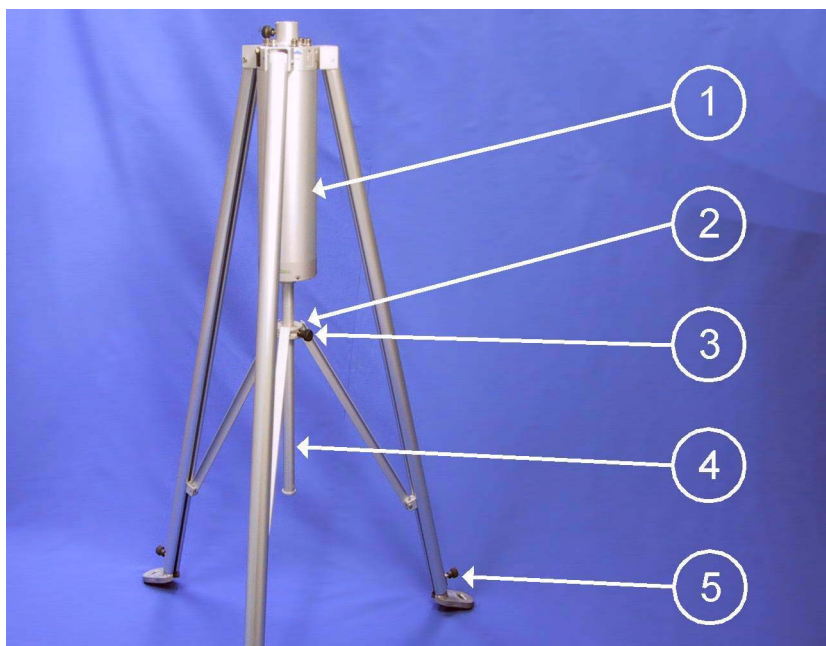

Figure 86 Mechanical Structure of Tripod
1. Place the tripod in an upright position. Loosen the locking ring (number 2 in Figure 86 on page 98) with the hand screw (3), spread the legs and push the locking ring all the way down to the end of the bar (4). Lock by tightening the hand screw (3). The support bars should be horizontal.